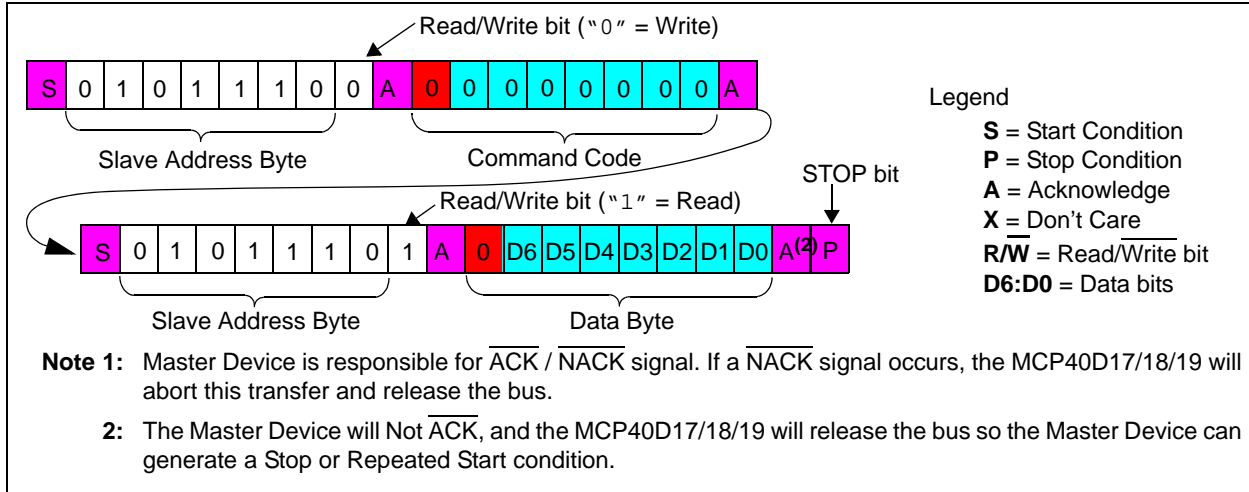

**FIGURE 5-13:** I2C Write Command Format (Slave Address = "0101110").
Data bytes may be written after each Acknowledge. The command is terminated once a Stop (P) condition occurs. Refer to Figure 5-12 for the single byte write sequence and Figure 5-13 for the generic (multi-byte) write sequence. For a single byte write, the master sends a STOP or RESTART condition after the 1st data byte is sent.